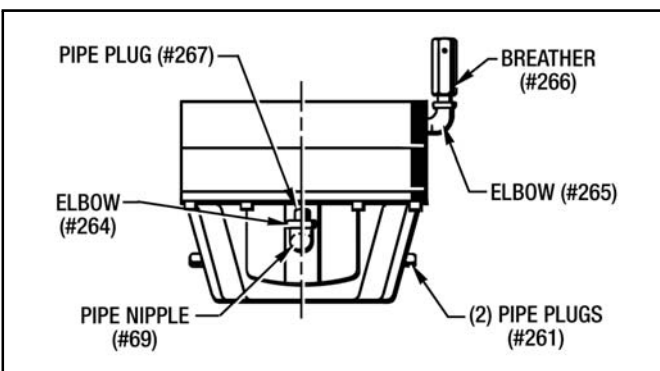

Figure 3.12 - Vertical Down Mounting Kit
4. Remove Pipe Plug (#64) from Housing (#8) (See Figure 8.1). Install 90 Degree Elbow (#265) and Breather (#266) (See Figure 3.12).